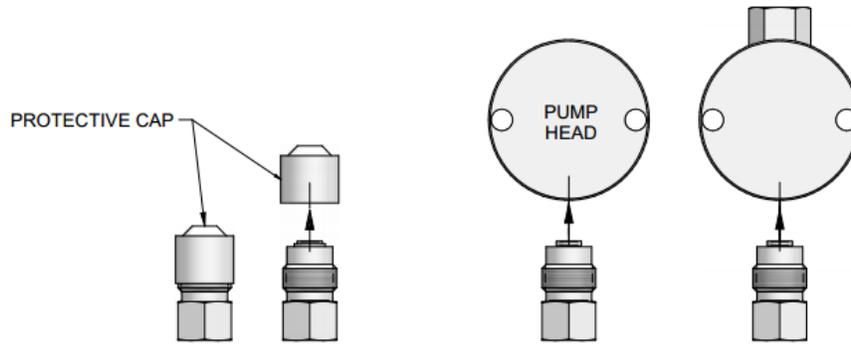

Figure 9, New Check Valves from package and proper orientation.
7. Hold one new check valve assembly as shown in *Figure 9* and unscrew the protective cap. With the check valve assembly maintained in the above position, thread it into the proper pump head port until it is snug. Install the other check valve assembly similarly.